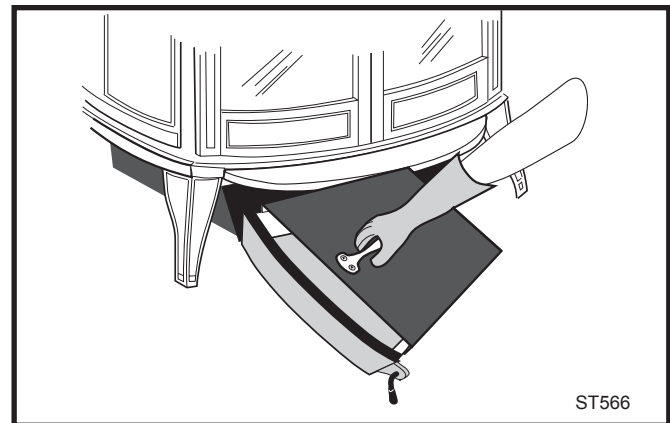

Fig. 28 Be sure the cover is securely attached before removing the ash pan.
- Slide the cover onto the pan, making sure it is securely closed. (Fig. 28)